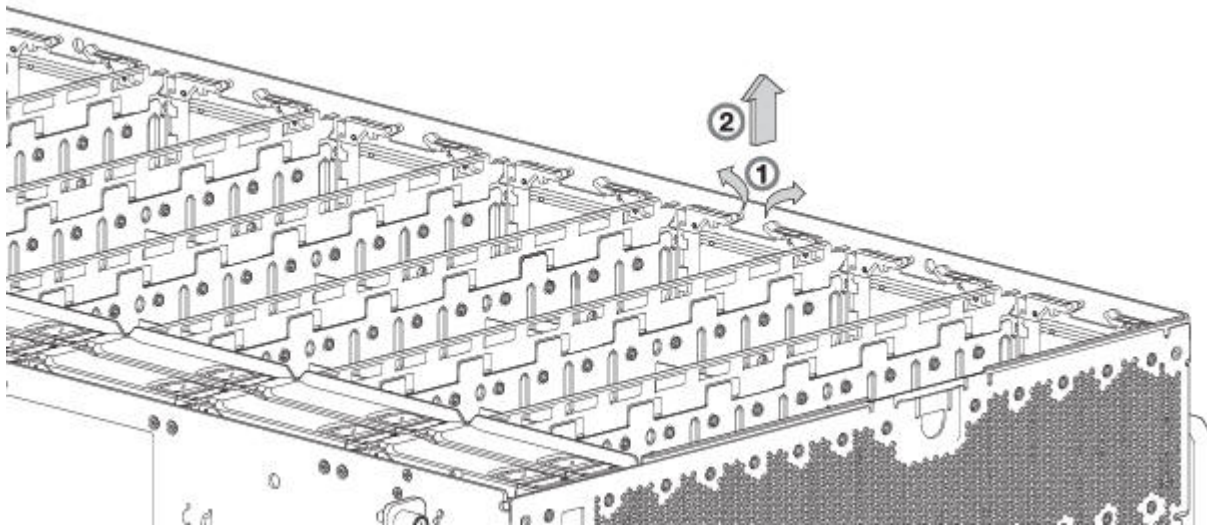
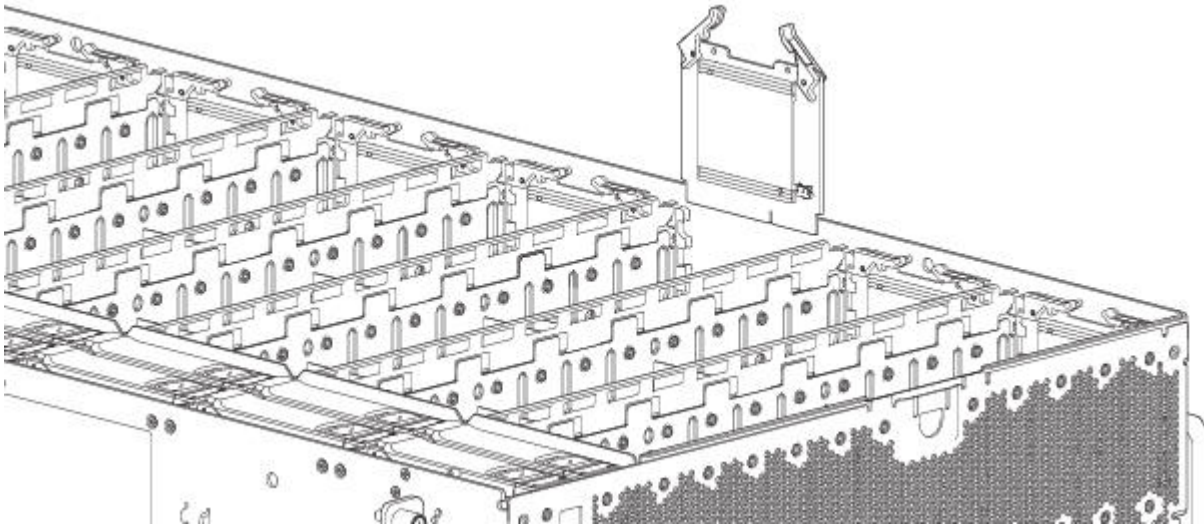

Figure 68. Removing a HS Expander (1 of 2)
Figure 69. Removing a HS Expander (2 of 2)
2. On the faulty HS Expander, grasp each of the two plastic swing-arms between thumb and index finger as shown in Figure 68.
3. Revolve each swing-arm upward to release the PCBA carrier from its slot as shown in Figure 69.
Refer to Figure 68 on page 81 and Figure 69 when performing this procedure, but ignore the directional arrow—since you will insert the module into the slot—rather than remove it.